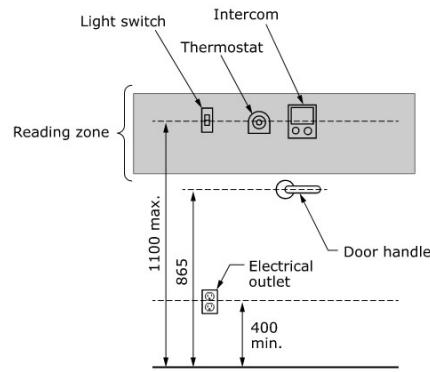

Figure 1.5 – Height of Operating Controls
- For rental tenure, operating controls should be located at accessible heights as per Figure 1.5 above